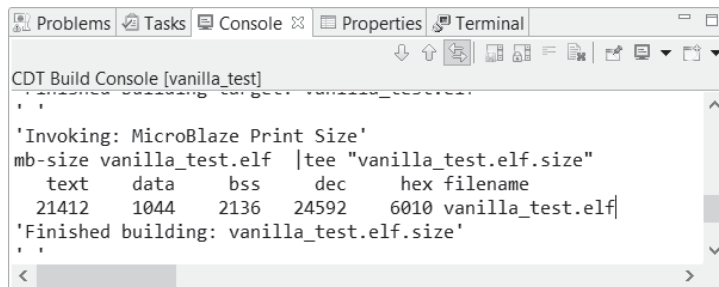

Figure A.18 File size information.
7. By default, Xilinx SDK is configured to build a project automatically and thus the `vanilla_test.elf` file is compiled and linked automatically after the files are dragged into the project. Note that the file size is displayed in the console tab, shown in Figure A.18.